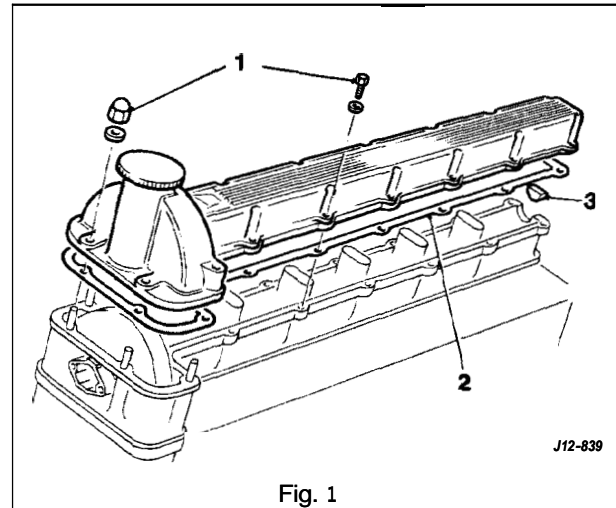

Fig. 1
- Rotate the engine as necessary and measure the valve clearances (2 Fig. 1) between the heel of the cam (4 Fig. 1) and the cam followers (3 Fig. 1).